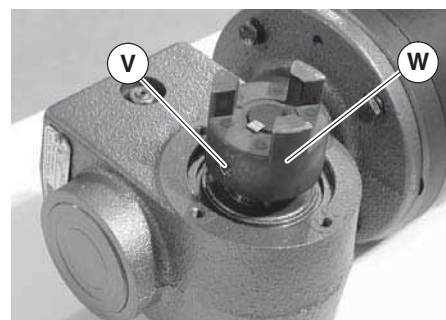

Figure 12
5. Loosen set screw (Figure 12, item V) and remove 3 jaw coupling (W).
- Install 3 jaw coupling (Figure 12, item W) and tighten set screw (V) to 45 in-lbs (5 N-m).